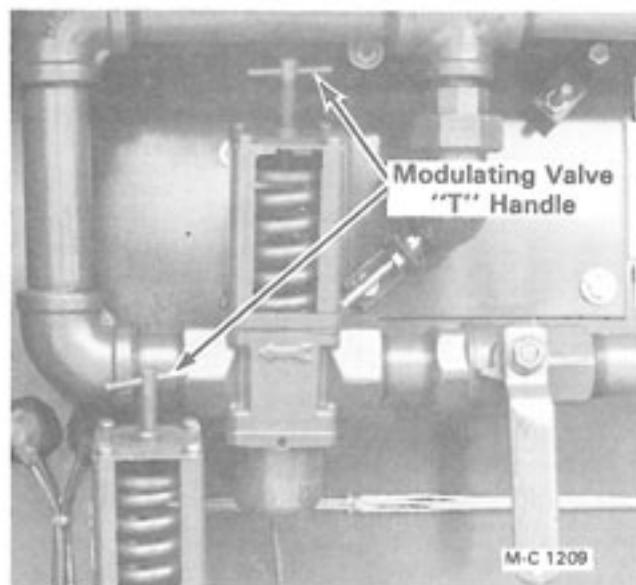

Figure 15 - Two Burner Cabinet
2. Turn the "T" handle on the modulating valve IN to INCREASE temperature and OUT to DECREASE temperature, see Figure 15. There is a temperature gauge on the control panel for each burner.